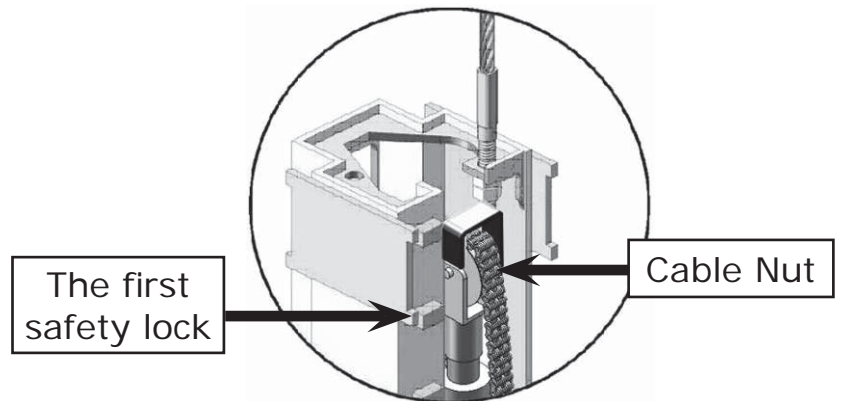

Fig. 38
1. Adjust synchronous cable (See Fig. 38)